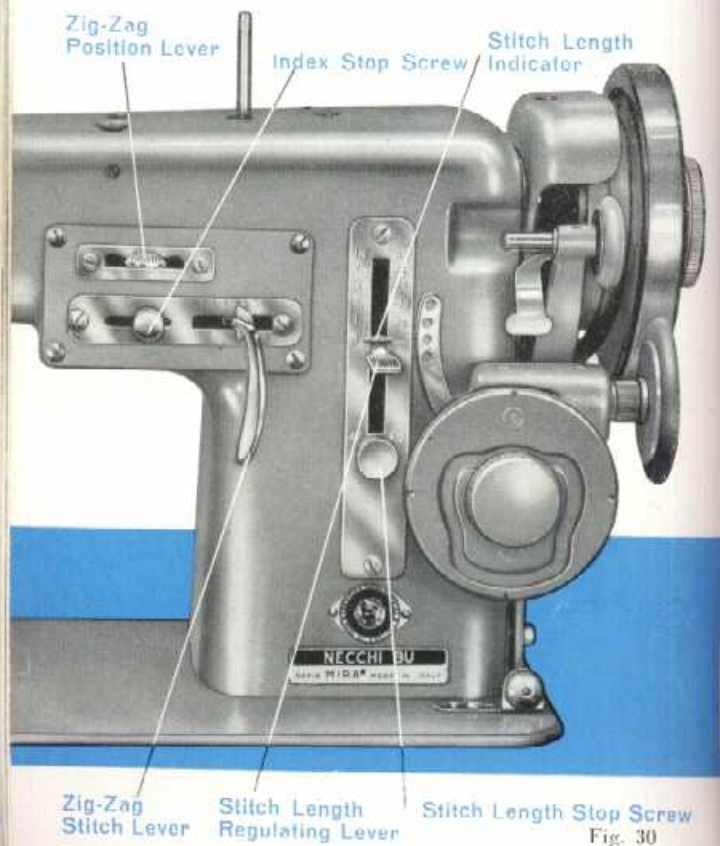

Fig. 30
Should it be desired, to do *straight stitching* only, the aforementioned needle plate and presser foot may be replaced with a Straight Needle Plate and Straight Stitch Hinged Foot which are also furnished with the machine. In this case the needle position lever (see Fig. 30) must be set in the left notch.
1. STRAIGHT STITCH (See Fig. 30)
2. ZIG-ZAG STITCH (See Fig. 30)